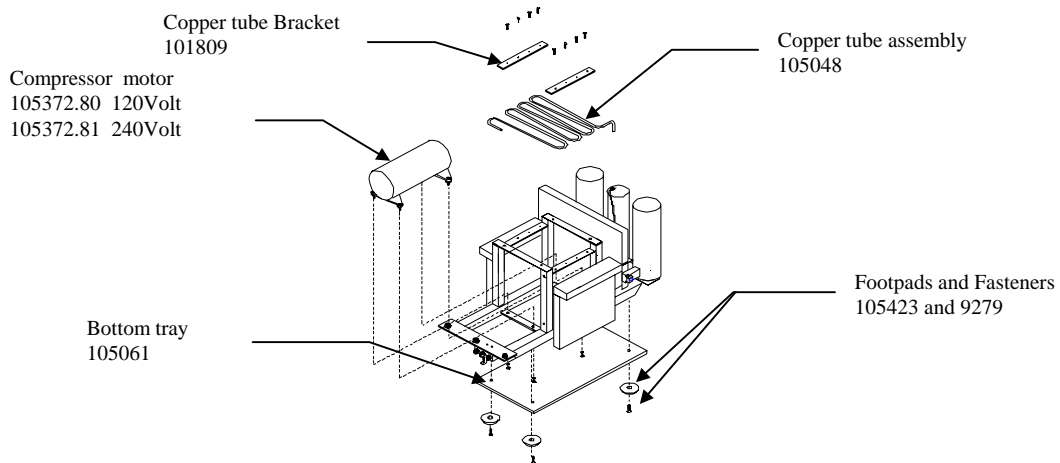

Figure 13
- Remove top brackets that secure the copper tube assembly on to the frame. These brackets are secured in place by four (4) screws each. Remove copper tube assembly.
- To be able to access the compressor's motor bolts and hardware, the compressor's bottom tray must be removed. The tray is held in place by the four bolts that mount the compressor's footpads (figure 13).